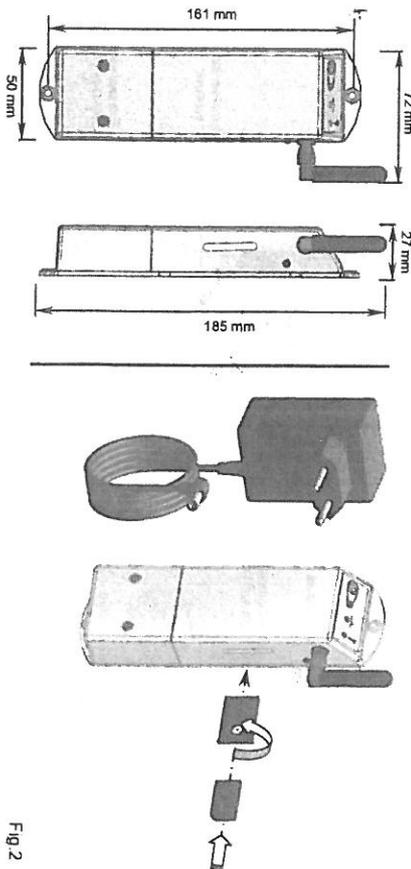

Fig. 2
- You can now test the output relay with the connected system by using the derogation button (see Fig2). With a LVI "RF Clock" check the good reception of the new order, the changeover of operating mode Comfort to ECO)